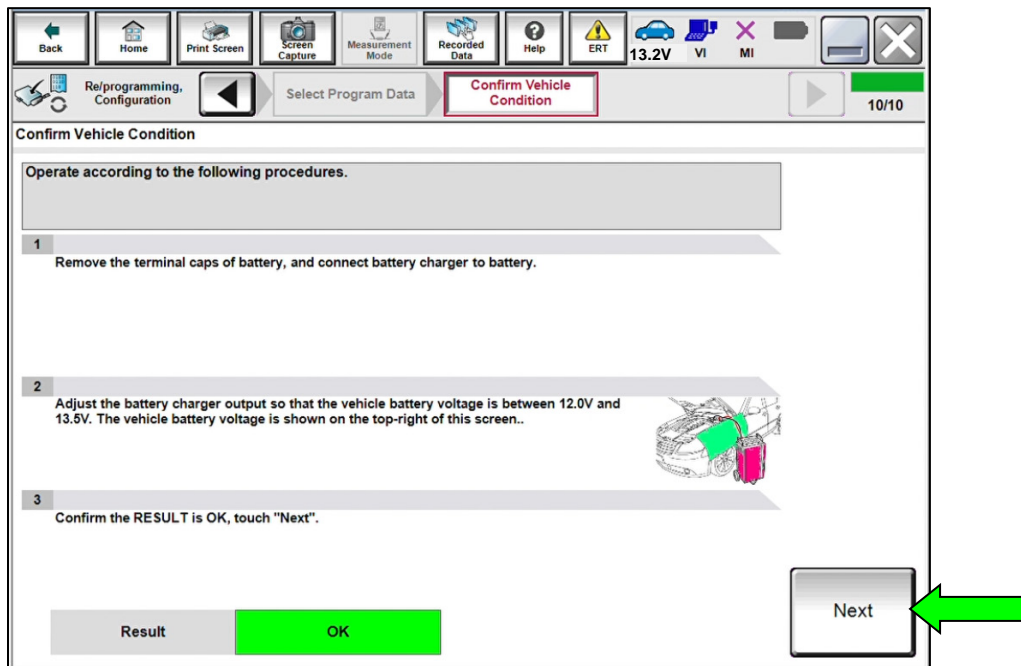

Figure 26
**HINT:** If the battery voltage result in Figure 26 shows "NG", verify the battery charger cables are connected properly at the battery and the charger is turned ON.